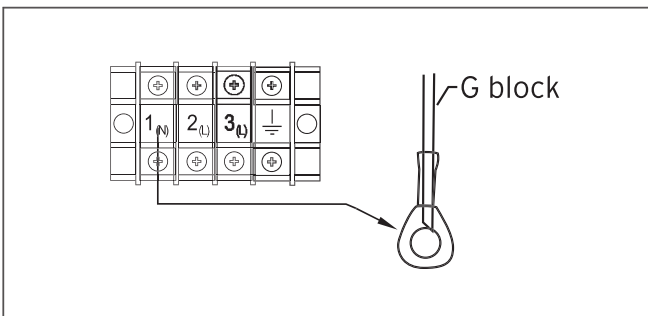

Fig. 8.2 Electric wiring.
- Insert the electrical conduction in the corresponding hole and make the connections on the strip (see Figure 8.2).